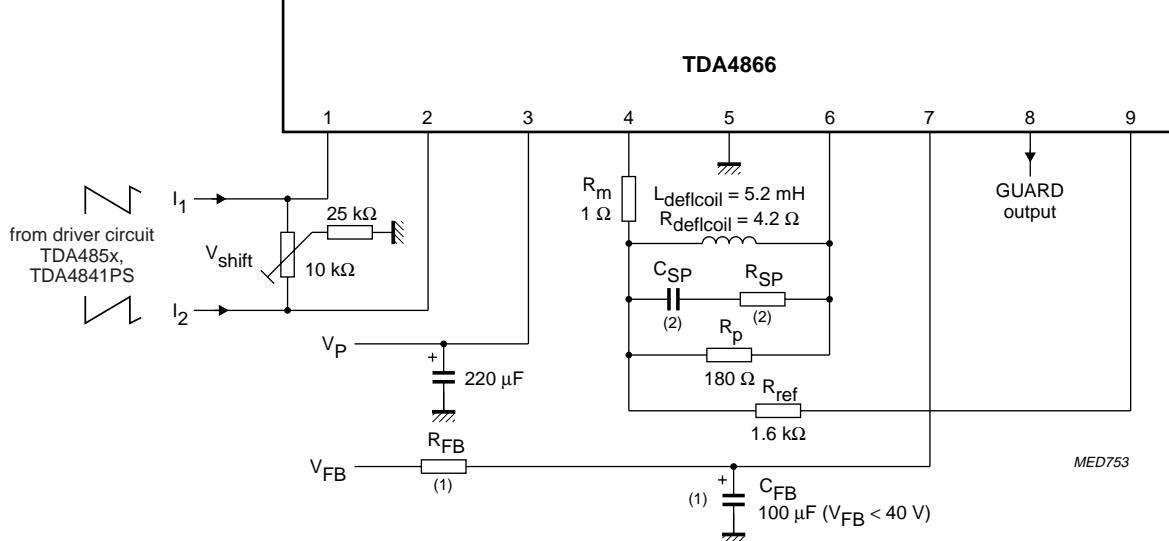

Fig.7 Application diagram with driver circuit TDA485x, TDA4841PS.
- Up to 60 V ≥ VFB ≥ 40 V a decoupling capacitor CFB = 22 µF (between pins 7 and 5) and a resistor RFB = 100 Ω (between pin 7 and VFB) are required (see Fig.7).